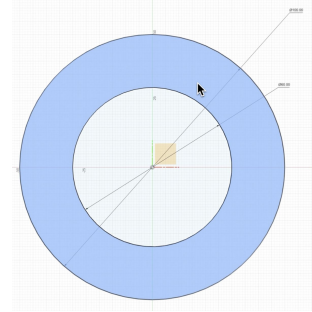

Figure 1.1
- **Two Circles Method:** Draw an outer circle (e.g., 100 mm diameter) and an inner circle (e.g., 60 mm diameter), then define both with dimensions. (see Figure 1.1)